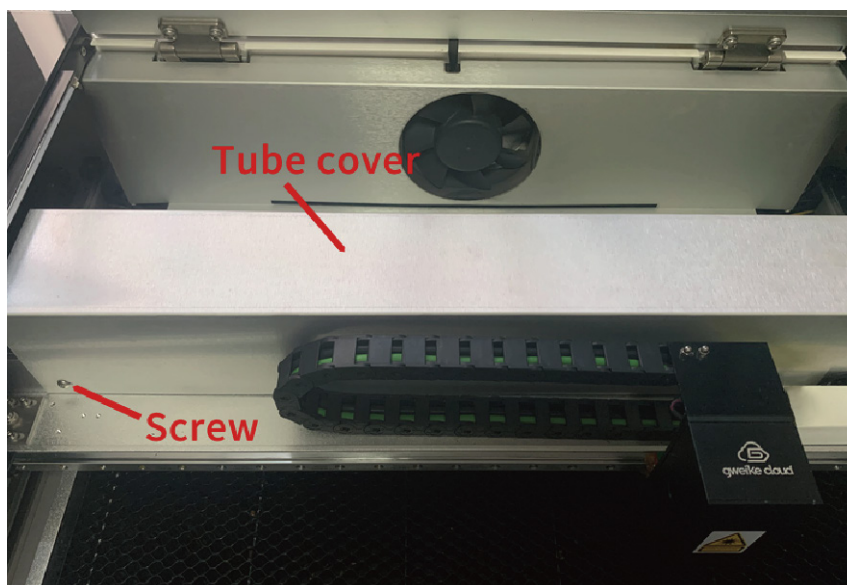

Figure 23
① Unscrew the screws on the front and back of the tube cover, and remove the tube cover (Figure 23)